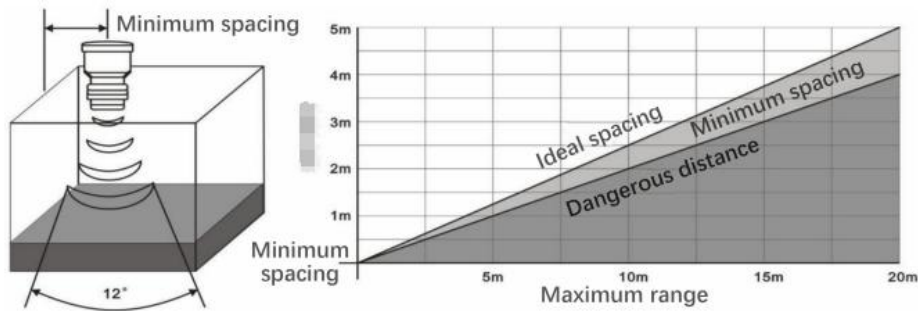

Figure 4
7.1.4 The probe should be installed to avoid its emission of acoustic channels and the vessel wall to maintain the ideal area as shown in Figure IV. Figure IV shows the range and probe installation distance from the vessel wall area, if the installation distance is less than the ideal area under the line specified distance, the probe should be installed in the "minimum spacing" area. If the mounting distance from the side wall is still below the "minimum spacing" line, the transmitter will likely not measure the level correctly. See Figure 4.